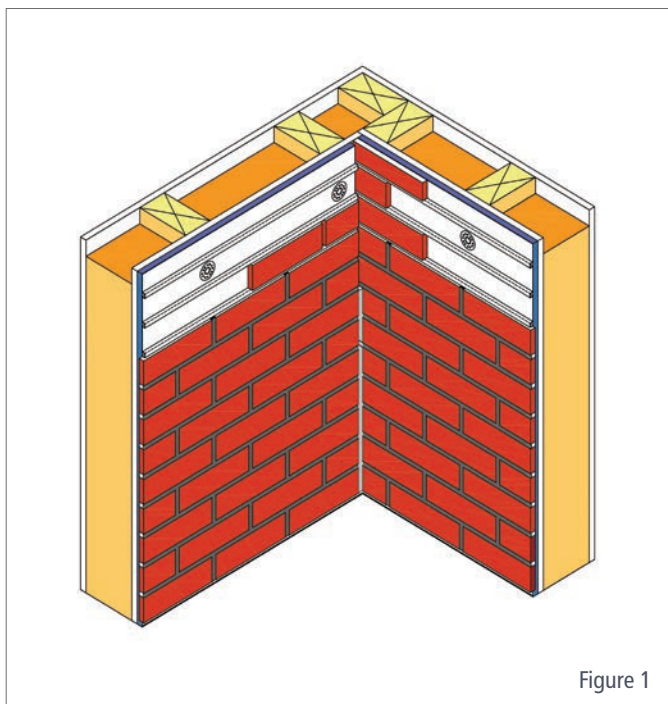

Figure 1
- For fixing to battens or timber/light gauge steel stud walling systems. See Figure 1.